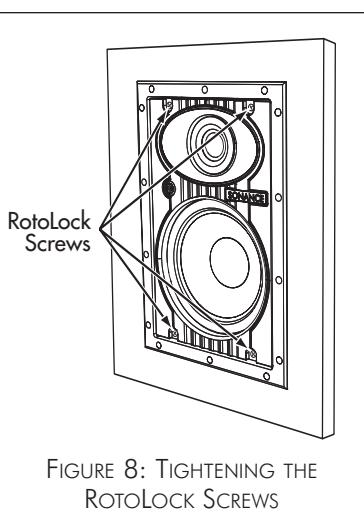

FIGURE 8: TIGHTENING THE ROTOLOCK SCREWS
- Tighten the four screws on the front of the speaker baffle. The RotoLock clamps will automatically rotate into position and begin clamping the speaker (*Figure 8*).